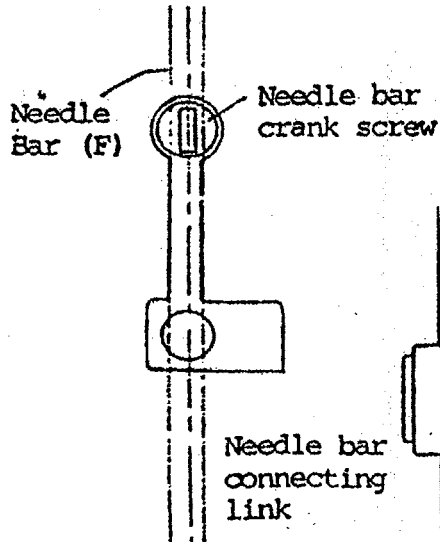

Fig. 13
5. ADJUSTING THE TIMING OF THE NEEDLE (Ref. Fig. 13)